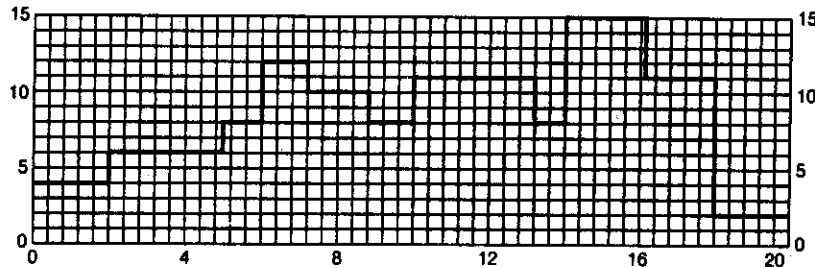

Fig. 8.70
Step 4. (Shifting of Activities). To smoothen the resources (load) the activities will have to be shifted depending upon the floats. Path 3 → 6 → 8 → 9 has a float of two weeks, and the activities 6—8 and 8—9 are shifted to the right in order that the starting of each is delayed by two weeks. Similarly, activity 4—7 can be shifted to the right so that it starts on 10th day instead of starting on 7th day. After making the necessary shifting, the network is drawn as shown in the *Fig. 8.70*.